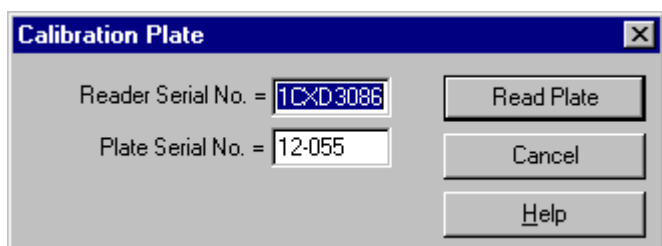

Figure 2-8 The Calibration Plate Dialog Box
- 4 The *Calibration Plate* dialog box (Figure 2-8) will be presented. This dialog box is used to verify the serial number of your MRX® reader and the serial number of the 12-way verification plate you will be using. Make any changes in either serial number.